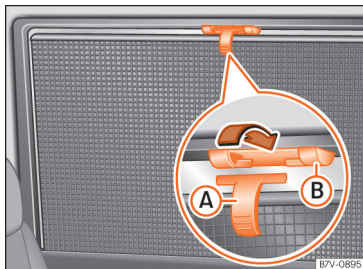

Fig. 127 On the rear right-hand window: curtain.
- Pull the sun blind by the handle >>> **Fig. 127** **A** up to the top.